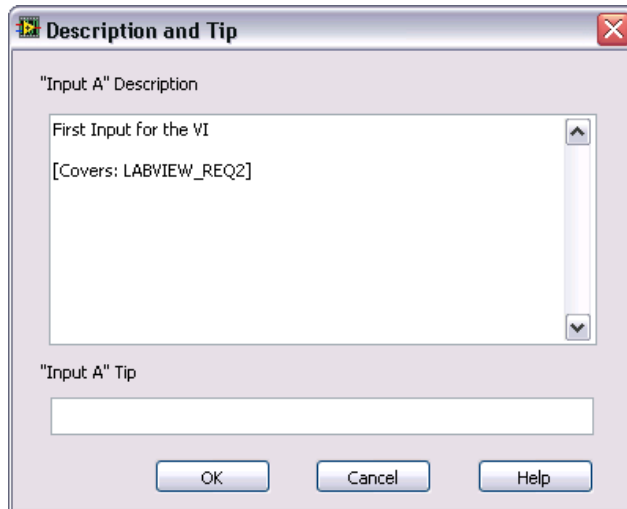

Figure 8-4. LabVIEW Description and Tip Dialog Box
9. Enter [Covers: LABVIEW_REQ2] in the Description control, as shown in Figure 8-4.